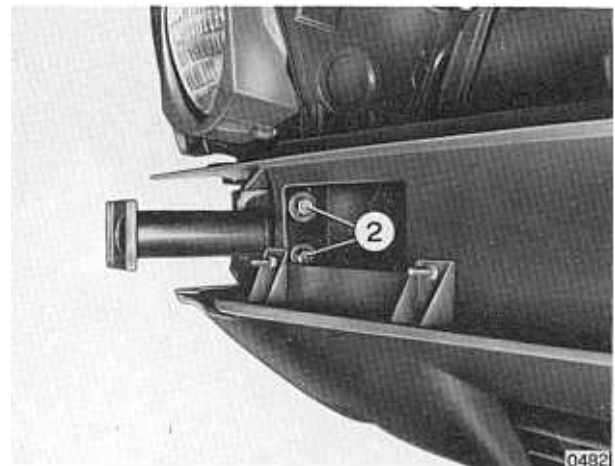

Fig. 15 2/2 - Removing bumper shock absorber.
- Unfasten the bolt (4) (fig. 15 2/1).
- Remove the bolts (2) and withdraw the shock absorber from its seating.